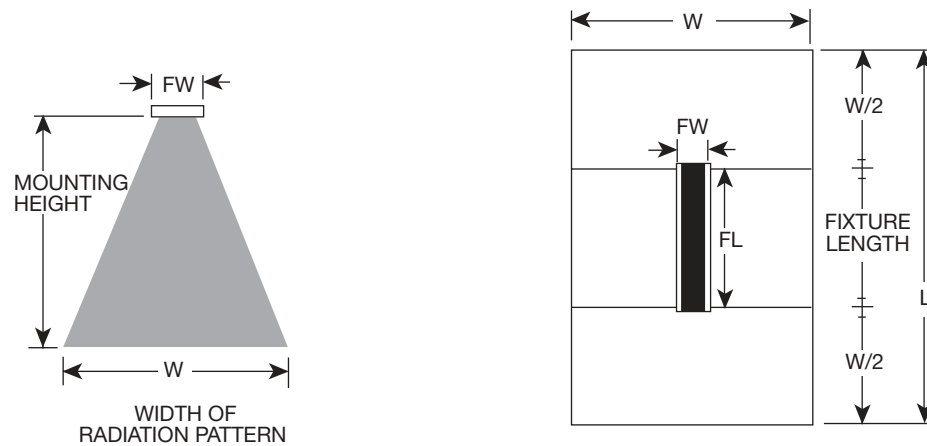

Figure 5: Radiated Pattern Area
- In areas where the width dimension is 25' or less, warm personnel from at least 2 directions, tilting in the heaters so more area of the person is covered. Tilt should be such that the upper limit of the beam is about six feet above the center of the work station. Refer to Figure 5.